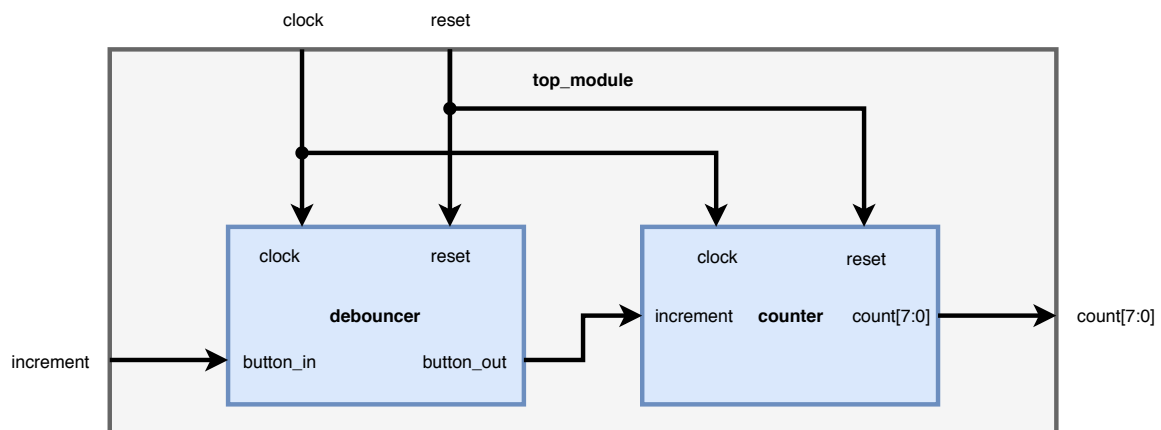

Figure 2: The overview of top module.
3. top - In the top module instantiate the debouncer and counter modules. Connect the modules as shown in Figure 2. Demonstrate the working top module on the FPGA to the TAs. Refer to Pre-Lab B and the Vivado tutorial for directions on implementing the design on the FPGA.